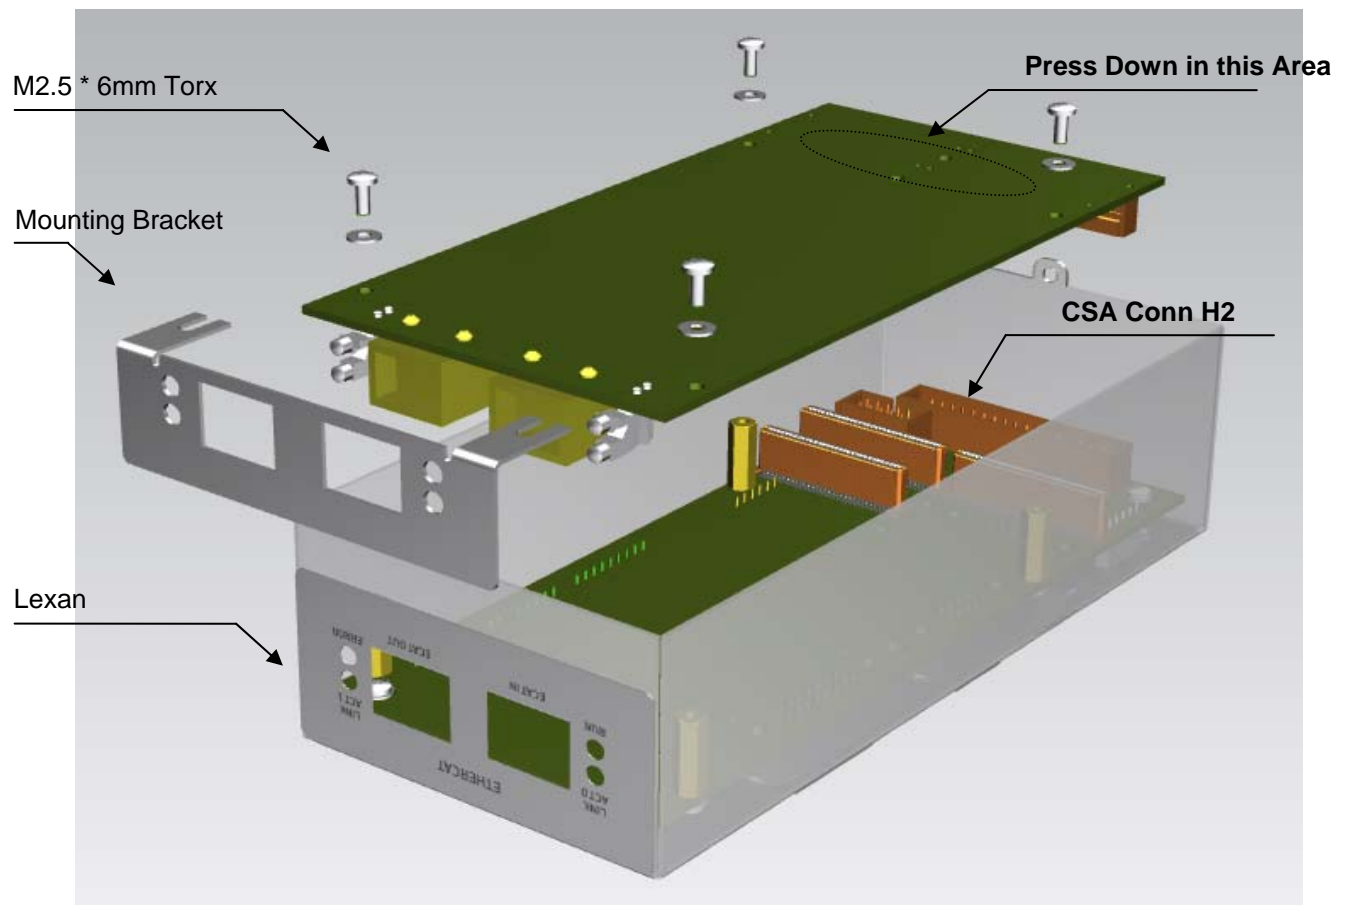

Figure 0-2 CSA Mezzanine Assembly Explosion (μ A size)
4. Place the mezzanine card on to the host card, gently pushing the connectors see (*Figure 0-2 CSA Mezzanine Assembly Explosion*) together until the mezzanine card rests evenly on the four standoffs attached to the host card.